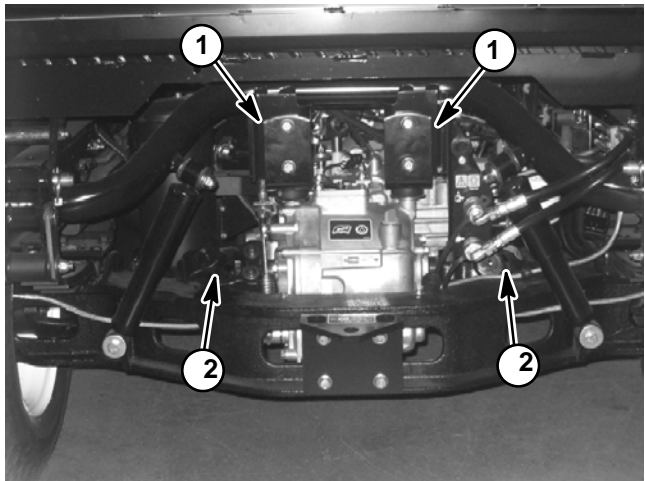

Figure 16
17. Remove isolation mount assemblies and transaxle mounts (Fig. 16).
21. Note location and retrieve two (2) dowel pins from bell housing.